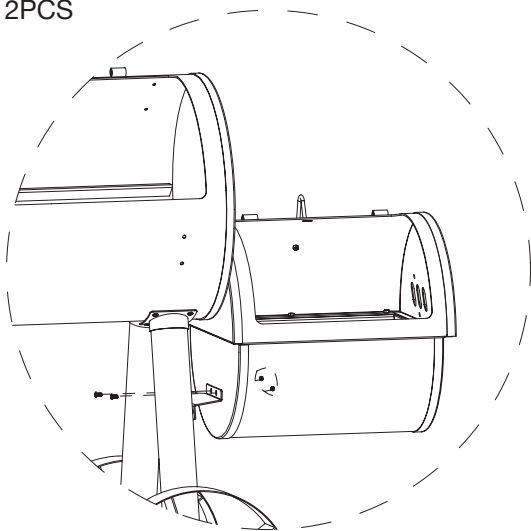

fig. 12c
- Use 2xM6-15 bolts & 2xM6 nuts into the Firebox Bracket (25) fig.12c.